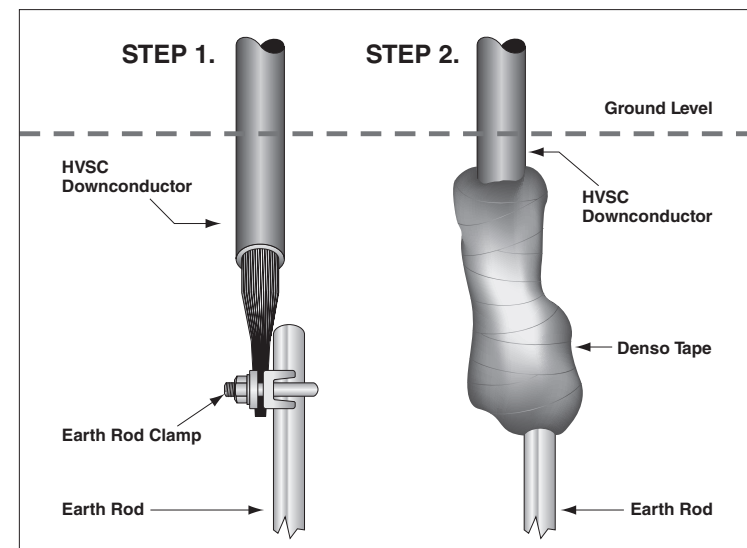

Figure 6.
5. Bunch together both inner and outer screen conductors. If connecting directly to the earth system as per figure 6 then the bunched conductors should be connected to the earth rod clamp and the clamp tightened holding the conductors firmly in place. To avoid oxidation of this connection seal it using the water resistant (Denso Tape) as provided in the kit.